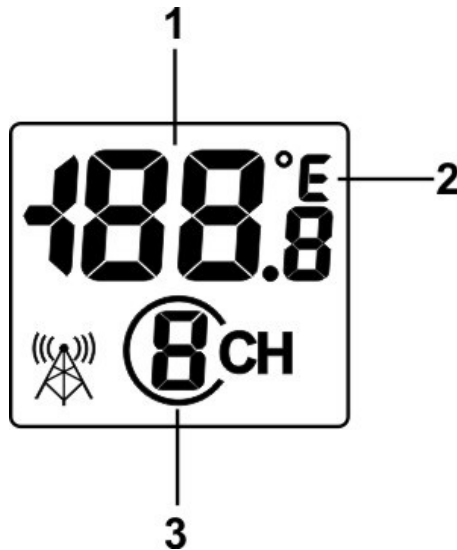

Figure 39
Verify the correct channel number (CH) and temperature units of measure (°F vs. °C) are on the display, as shown in Figure 39.